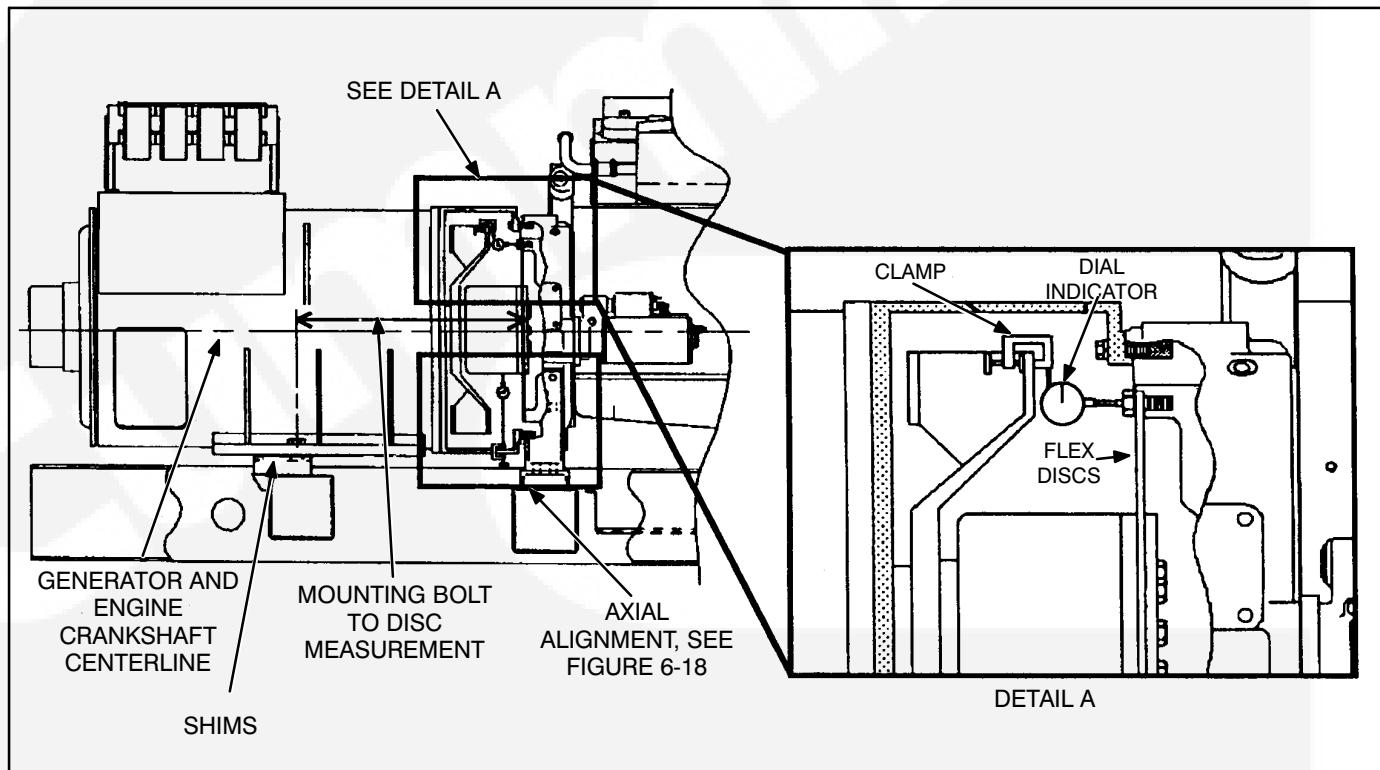

FIGURE 6-16. ANGULAR ALIGNMENT MEASUREMENT
disc at the bolt circle diameter, see Figure 6-16. Bar the engine over in a clockwise rotation as viewed from engine flywheel. Do not allow it to roll back on compression at the end of the travel of each reading. It is unnecessary to zero the indicator since the total indicator reading (T.I.R.) of the deflection measurement to the bolt heads is what is required. T.I.R. will be the sum of the maximum positive and negative dial indicator readings as the engine completes one revolution.
2. Measure the distance from the generator side of the flex discs to the center of the generator mounting bolt, refer to Figure 6-16. (For example; a HC6 Frame's distance is 28.4".)